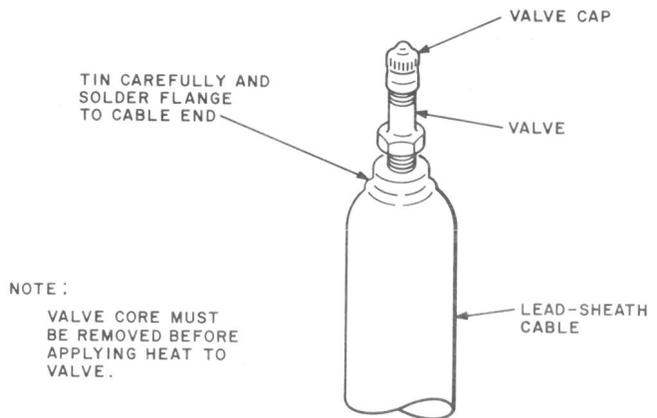

Fig. 36—Placement of Valve in Lead Sheath Cable
14.02 When necessary to place a permanent valve in lead-sheathed cable, the core and sheath are prepared as shown in the first and second steps of Fig. 35 and the valve is soldered as shown in Fig. 36.